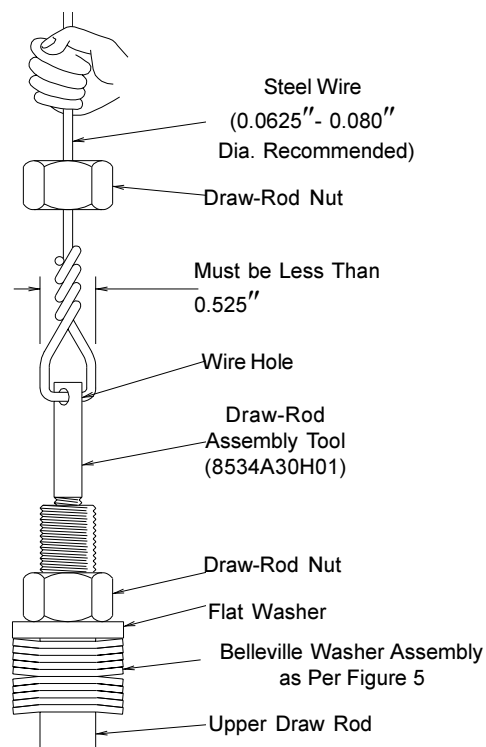

Figure 2: Assembly of Draw-Rod Nut Over the Draw Rod
3. Screw the draw-rod assembly tool into the tapped hole at the top end of the upper draw rod until it bottoms as shown in Figure 2. Through the wire hole provided, tie a 15 ft. long 16 or 14 gage wire to the top end of the draw-rod assembly tool as shown in Figure 2. Pass the other end of the wire through the socket and slide the socket down to engage the nut.
9. Through the wire hole provided, tie this end of the wire to the top end of the draw-rod assembly tool as shown in Figure 2.
10. While supporting the wire and the draw-rod assembly, slowly lower the bushing over the draw rod until the top end of the draw rod passes through all washers in the Belleville washer assembly as shown in Figure 2.
sembly, slide the draw-rod nut and the socket down over the wire and assembly tool, and hand tighten the nut on the draw rod as shown in Figure 2. Do not tighten the nut at this point. The purpose of screwing the nut on at this point is to prevent the draw rod from falling/sliding down. Remove the wire and the draw-rod assembly tool from the upper end of the draw rod.
3. Screw the draw-rod assembly tool into the tapped hole at the top end of the upper draw rod until it bottoms as shown in Figure 2. Through the wire hole provided, tie a 15 ft. long 16 or 14 gage steel wire to the top end of
the draw-rod assembly tool as shown in Figure 2. Pass the other end of the wire through the socket and slide the socket down to engage the nut.
- 10. While hanging the new bushing upright from the crane over the mounting area, and above the draw-rod assembly, insert the 15 ft. long 16 or 14 gage steel wire into the tube through the Belleville washer assembly until it comes out of the conductor tube at the bottom end. Through the hole provided, tie this end of the wire to the top end of draw-rod assembly tool as shown in Figure 2.
- 11. While supporting the wire and the draw-rod assembly, slowly lower the bushing over the draw rod until the top end of draw rod passes through all washers in the Belleville washer assembly as shown in Figure 2.
- 13. While firmly supporting the wire and the draw-rod assembly, slide the draw rod nut and the socket down over the wire and assembly tool, and hand tighten the nut on the draw rod as shown in Figure 2. Do not tighten the nut at this point.